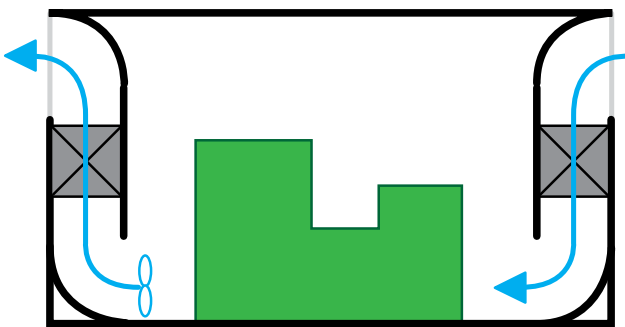

Figure 6: Reducing high-frequency noise by making the generator set cooling air turn 90 degrees several times as it enters or leaves a room or enclosure
4. Cooling air attenuation – Inlet and outlet air attenuation baffles can help reduce the noise produced by the cooling air as it moves across the engine and through the radiator. Noise from the movement of cooling air is significant because of the volume required – about 20 cubic meters per second for a generator set with a 50-liter diesel engine. Alternatively, the radiator can be remotely located to a roof, for example, to eliminate this noise source or direct it up and away from people or the property line. Also, making air travel through a 90-degree bend in a duct reduces high-frequency noise. See Figure 6.